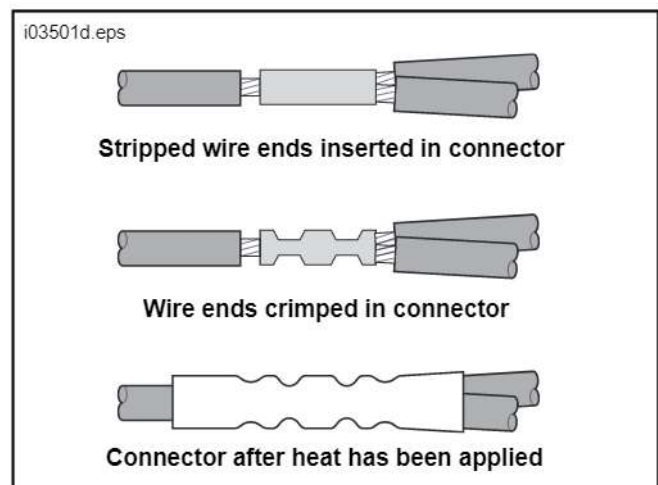

Figure 4. Installing Butt Connectors
17. See Figure 4, and the BUTT SPLICE CONNECTORS section of the Service Manual. Insert the red wire from each lighted screw into one end of a butt-splice electrical connector (15) from the kit, and secure with a Crimp Tool, Part No. H-D 38125-8.
18. Slide a piece of heat-shrink tubing (16) from the kit over the end of the red wire from the Accessory connector. Remove approximately 3/8 in. (10 mm) of insulation from the end of the wire, and insert it into the other end of the butt-splice connector. Secure with the Crimp Tool.